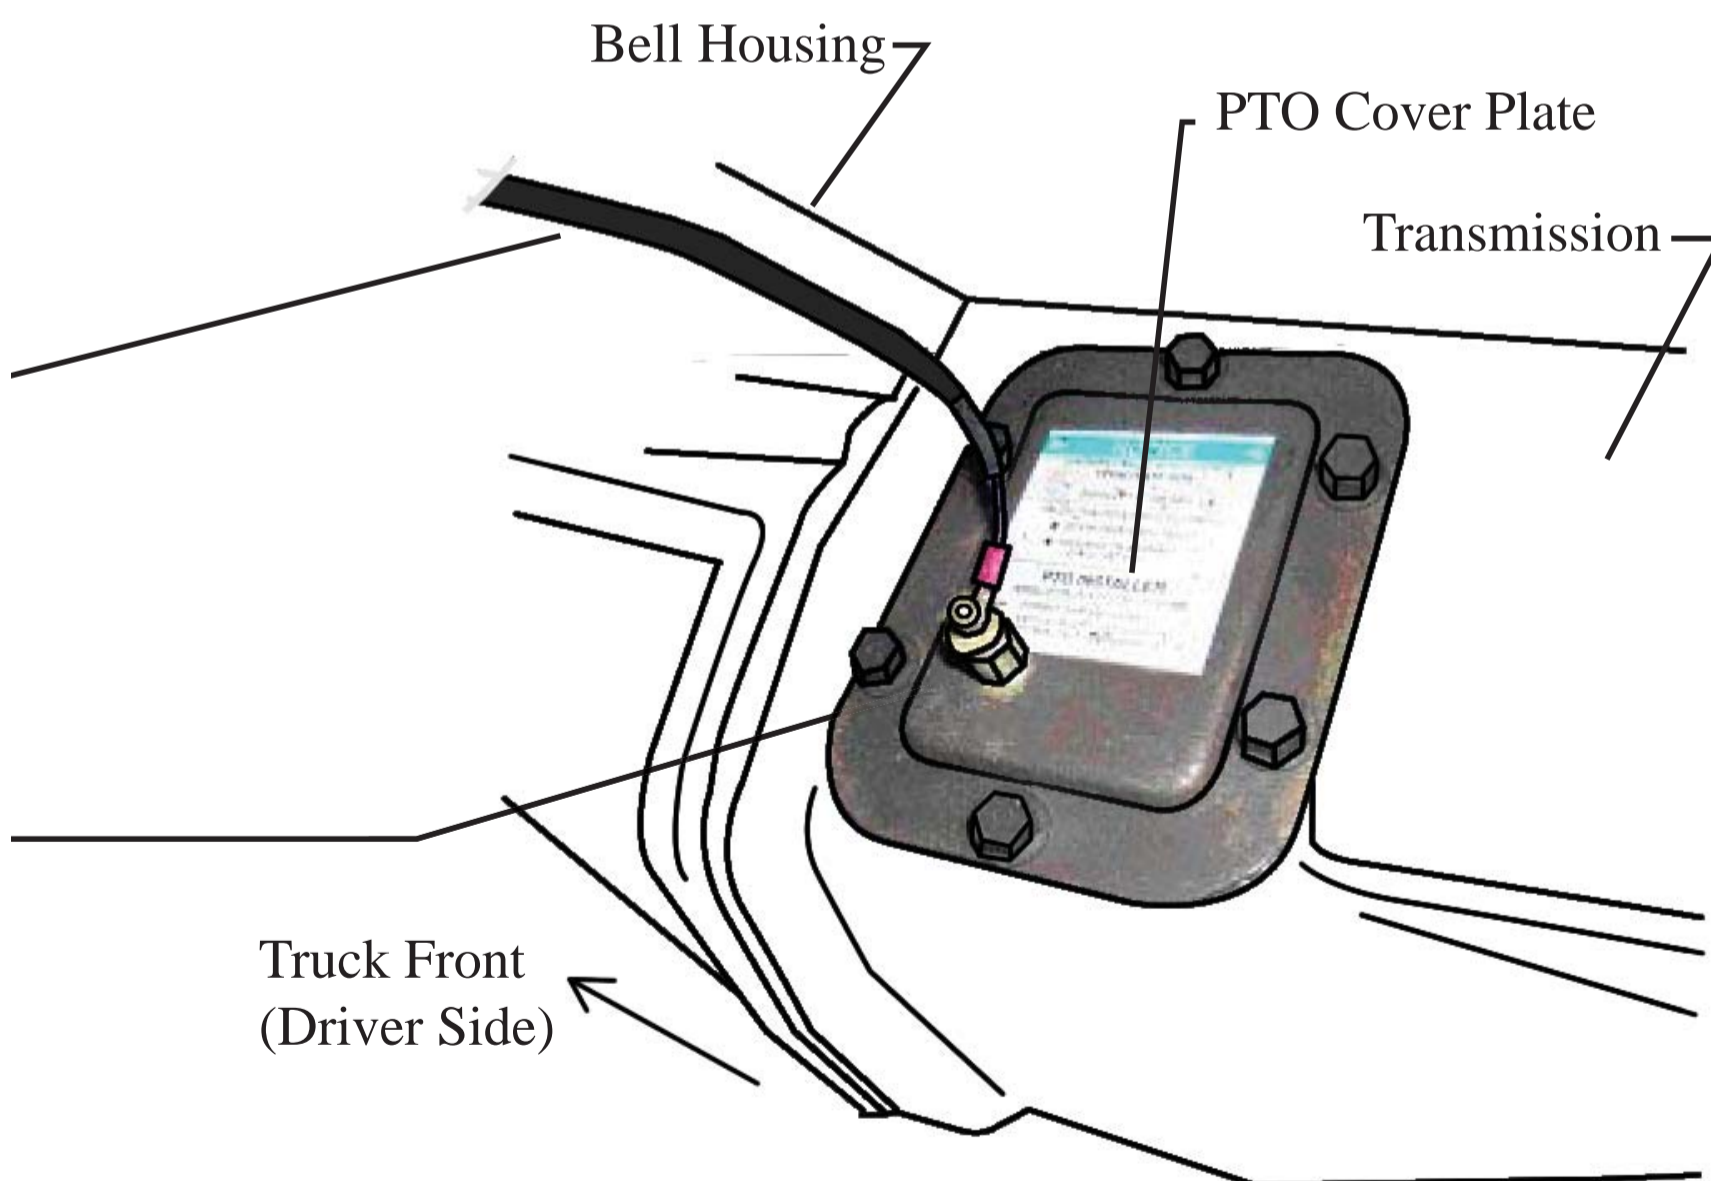

Figure 18 - Manual Transmission (Driver Side)
3. Using a 5/16" or 21/64" drill bit, drill a hole in the PTO cover plate in the location shown in figure 18.